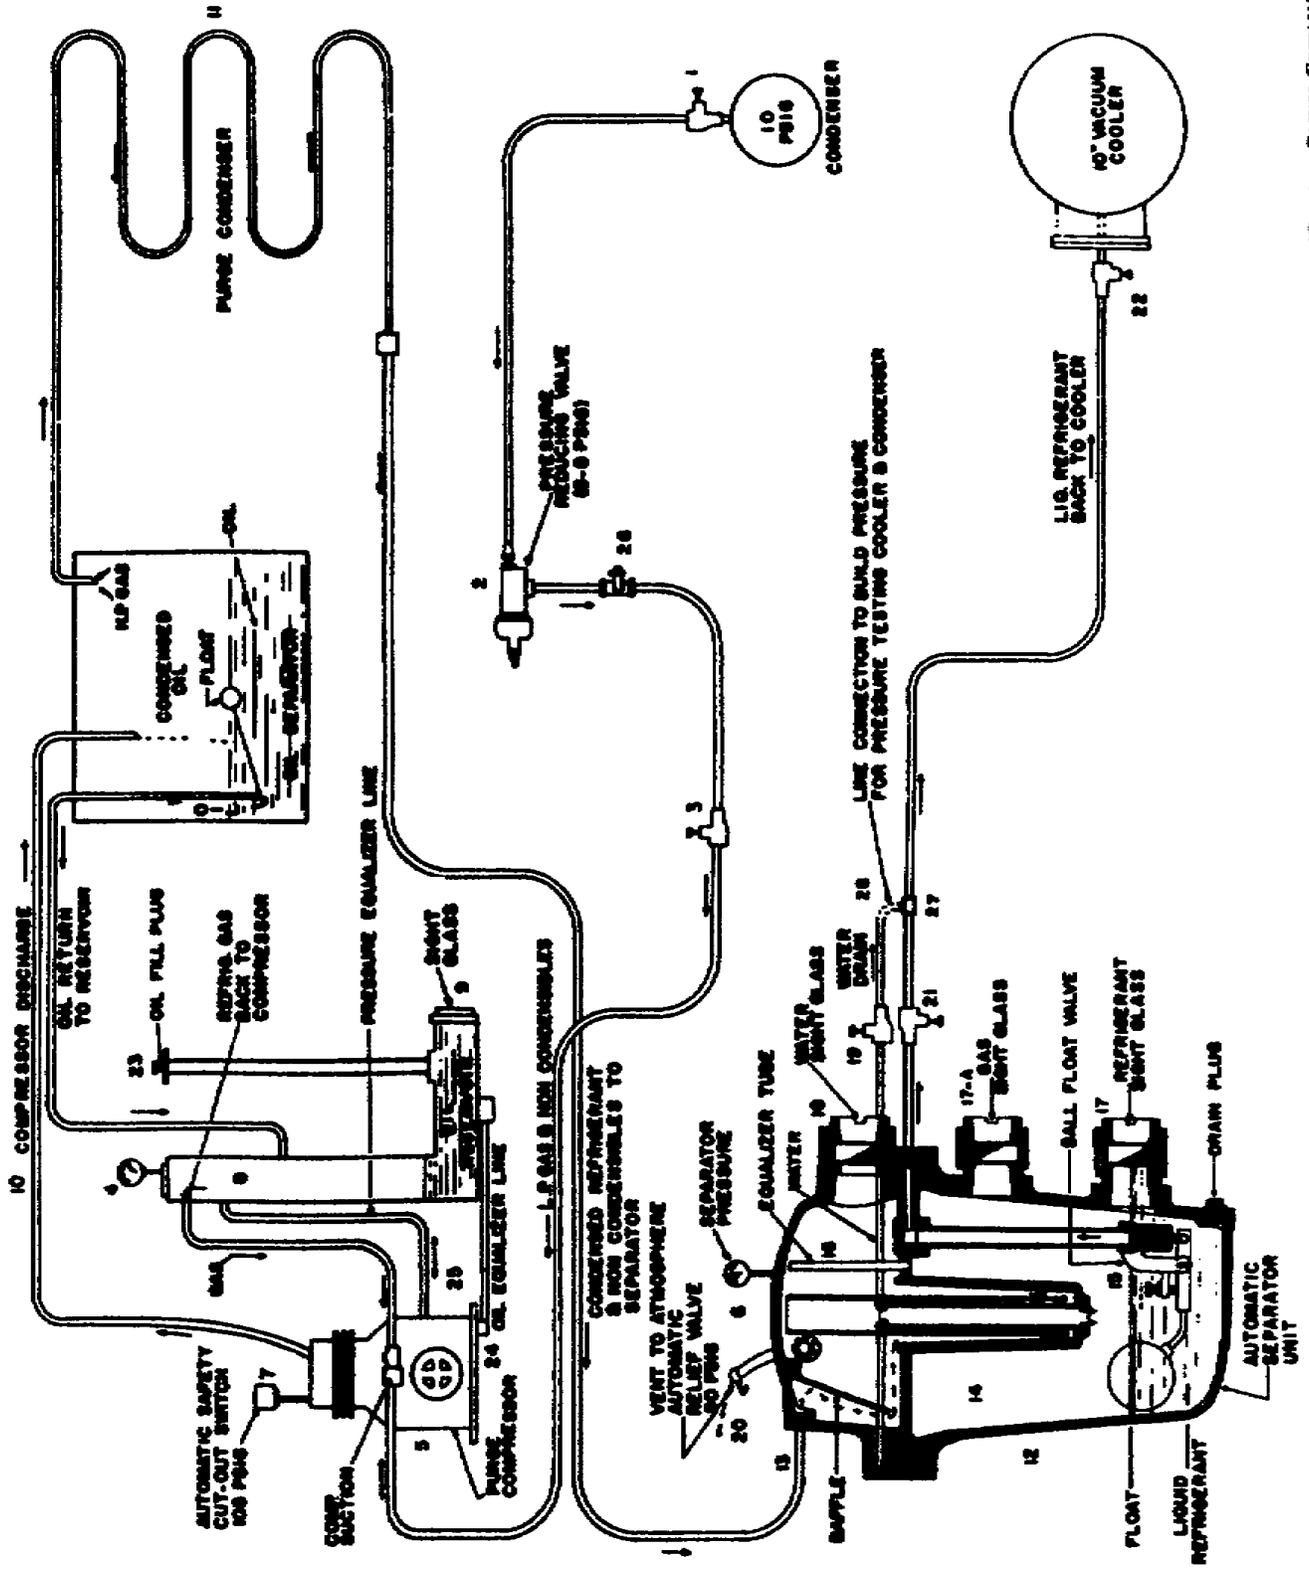

Figure 66. Purge unit schematic.
3. **Components.** The following discussion of the component items of the purge system is referenced to figure 66.
- Stop valve--on main condenser, item 1. This valve is always open except during repairs.
- Pressure-reducing valve--in suction line, item 2, to regulate the compressor suction pressure.
- Stop valve--in suction line, item 3, located in the end of the purge unit casing. This valve is to be open when the purge unit is in operation and closed at all other times.
- Pressure gauge--this gauge, item 4, indicates
- Weir and trap, item 14--located in the center of evacuation chamber. Since the water is lighter than liquid refrigerant the water is trapped above the liquid refrigerant in the upper compartment. Only refrigerant liquid can pass to the lower compartment.
- Float valve, item 15--a high-pressure float valve, opening when the liquid level rises, allows the gas pressure to force the liquid refrigerant into the economizer.
- Equalizer tube, item 16--to equalize the vapor pressure between the upper and lower compartments.
- Two sight glasses, items 17 and 17A--on lower liquid compartment, visible at the end of the casing. These glasses show refrigerant level in the separator.
- Sight glass, item 18--on upper compartment to indicate the presence of water.
- Stop valve at the end of casing, item 19--permits water to be drained from the upper compartment. The valve is marked "Water Drain" and is closed except when draining water.
- Automatic relief valve, item 20--to purge air to the atmosphere.
- Stop valve marked "Refrigerant Return" in the return liquid refrigerant line, item 21--located at the end of the casing. Open only when purge is operating.
- Stop valve, item 22--on economizer in the return refrigerant connection. Open at all times except when machine is shut down for a long period or being tested.
- Plug in oil filling connection of reservoir, item 23--pressure in the system must be balanced with the atmospheric pressure to add oil through this fitting.
- Cap, item 24--or draining oil from the compressor crankcase and oil reservoir. Oil may also be added through this connection (not shown in fig. 66) *if* (1) a packless refrigerant valve is installed in place of cap at the connection and (2) the purge compressor is operated in a vacuum.
- Connections between auxiliary reservoir and compressor crankcase, item 25.
- Motor and belt--not shown in figure 66.
- Plugged tee after pressure-reducing valve on line from condenser, item 26.
- Capped tee on line leading to cooler, item 27.
- Temporary connector pipe from water drain from separator to liquid refrigerant line to cooler, item 28.
- 4. Purge Recovery Operation.** The purge recovery operation is automatic once the purge switch is turned on and the four valves listed below and referred to in figure 66 are opened:
9. The pressure-reducing valve (2), shown in figure 66, is adjusted to produce a suction pressure on the purge recovery unit and will not allow condensation in the suction line. If condensation does occur, the condensate will collect in the crankcase of the purge unit compressor, causing a foaming and excessive oil loss. The table in figure 67 can be used as a guide for setting the pressure-reducing valve. If the pressure-reducing valve is wide open, there will be a pressure drop of a few pounds across the valve and the suction pressure cannot be adjusted higher than a few pounds below the machine condensing pressure.
10. **Purge Unit Maintenance.** After repairs or before charging, it is necessary to remove large quantities of air from the machine. This can be done by discharging the air from the machine. This can be done by discharging the air from the water removal valve (item 19, fig. 66). Caution must be observed in the removal of air, since there is some danger of refrigerant being discharged with the air and being wasted to atmosphere.
11. If the normal delivery of refrigerant is interrupted, it is usually caused by the stop valve (item 21, fig. 66) being closed or because the float valve is not operating. This malfunction is indicated by a liquid rise in the upper sight glass. Immediate action must be taken to correct this trouble. If the liquid is not visible in the lower glass, the float valve is failing to close properly.
13. The purge unit compressor and centrifugal compressor use the same type and grade of oil. Oil can be added to purge the compressor by closing stop valves (items 3 and 21, fig. 66), removing plug (23) in the top of the oil sight glass, and adding oil. Oil can be drained by removing the oil plug (24, fig. 66). The oil level can be checked by a showing of oil at any point in the oil sight glass while the compressor is running or shut down. The level of oil will fluctuate accordingly. The oil level should be checked daily.